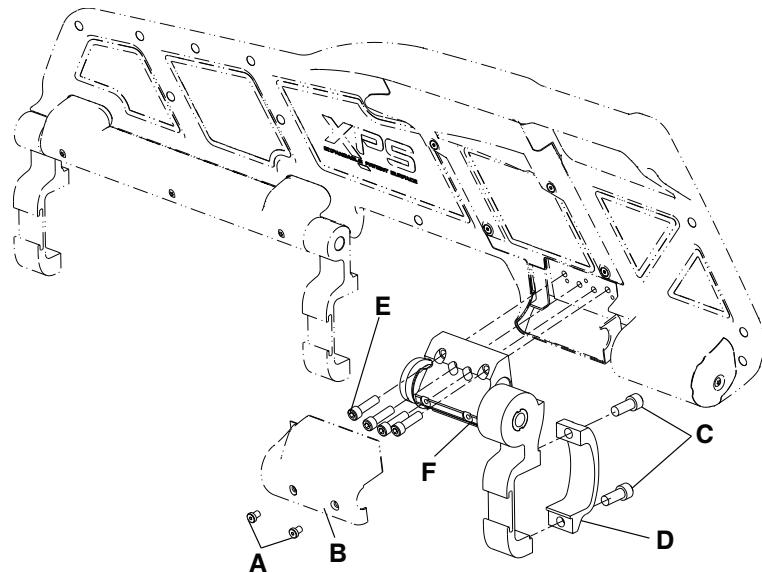

Figure 10 – Ratchet assembly replacement (XPS)
3. Using a 3/32" hex wrench, remove the two screws (A) that secure the ratchet cover (B) to the ratchet assembly. Remove the cover (Figure 10).
4. Using a 1/4" hex wrench, remove the socket head cap screws (C) that secure the siderail clamp (D) to the ratchet assembly at the foot end of the main assembly (Figure 10). When you reinstall, use a torque wrench to torque both new screws to 22 ± 3.3 ft-lb.
5. Using a 3/16" hex wrench, remove the four screws (E) that secure the ratchet assembly (F) to the overmold assembly and discard. Remove the ratchet assembly (Figure 10). When you reinstall, use a torque wrench to torque the four new screws to 9.5 ± 1.5 ft-lb.